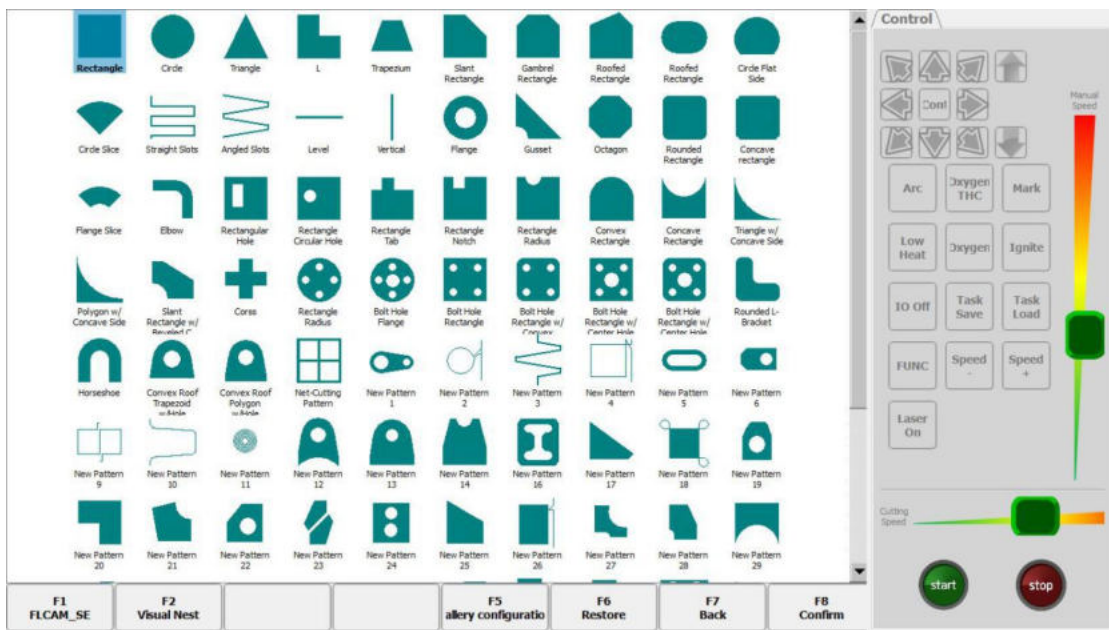

Figure 13.9 Graphic management interface
- After opening the F7600 interface, click the "Drawing Management" button, as shown in Figure 13.9: